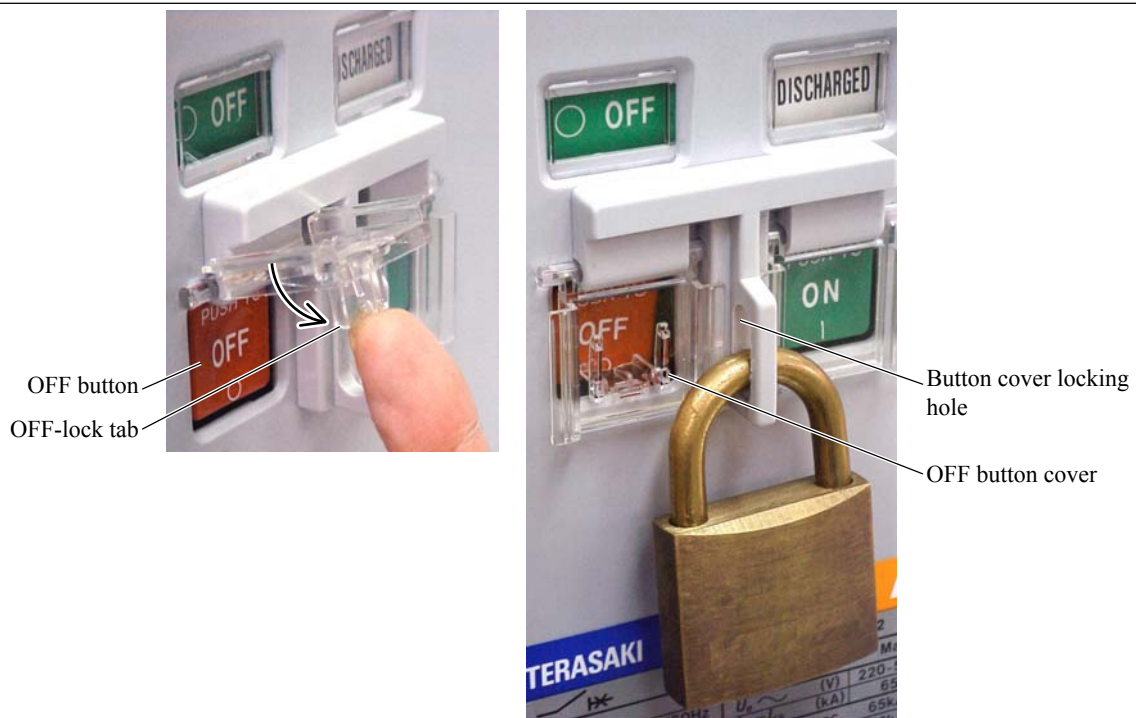

Fig. 33 Locking the OFF button
- 1) Open the OFF button cover shown in Fig. 33.
- 3) Lock the button cover using a padlock with $\phi 6$ shackle (up to 3 padlocks can be used) as shown in Fig. 33. The OFF button is locked depressed, which disables the ON button.